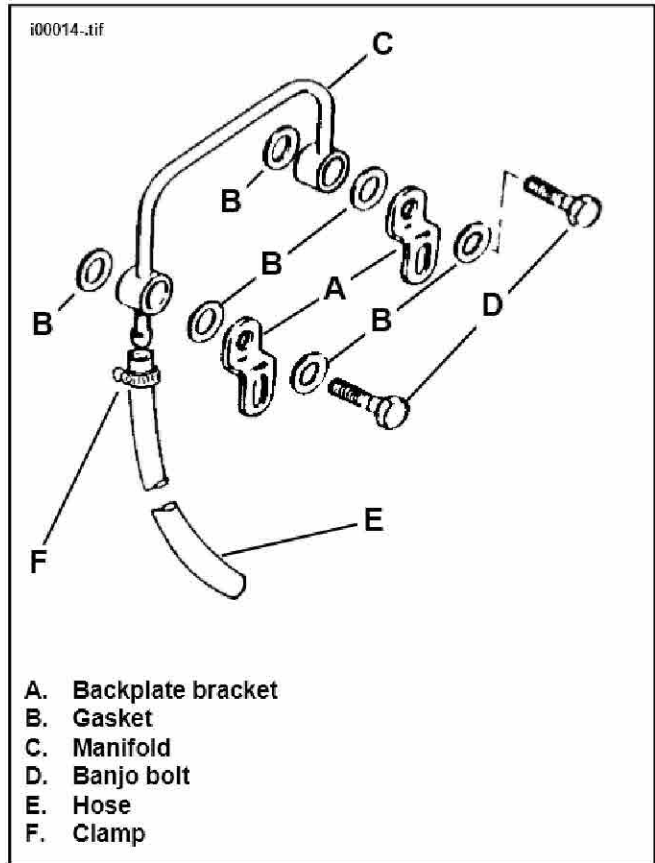

Figure 1. Breather Manifold Kit
See Figure 1. To install on 1992 and later vehicles, Threaded Cylinder Head Insert Kit, Part No. 29304-92 is also required. To install on 1993 and later vehicles, Breather Manifold Kit, Part No. 29308-93 is also required.
5. See Figure 1. On 1993 and later vehicles, install Breather Manifold Kit, Part No. 29308-93.